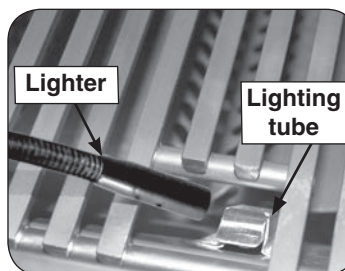

Fig. 27-2 Manual lighting via lighting tube
2. Insert either a burning long-barrel butane lighter or a burning long-stem match through the cooking grid opening to the top of the lighting tube (Fig. 27-2). For backburners or infrared burners, hold the flame against the surface of the backburner/infrared burner. Grills equipped with an infrared burner include a wire extension match holder (attached to drip tray) to assist with manual lighting (Fig. 27-3).
4. If the burner does not light within five (5) seconds of turning the control knob, **immediately depress the knob and turn the valve to OFF**. WAIT FIVE (5) MINUTES before repeating steps 2 through 4 of the MANUAL LIGHTING instructions.